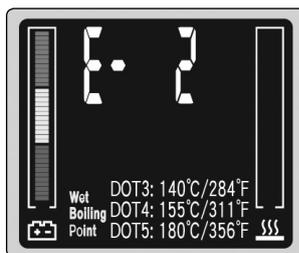

Fig.7
4.7.5.2. E-2: means either the voltage is too low (lower than 10.8V) or the voltage is too high (higher than 15.7V), see fig.7.